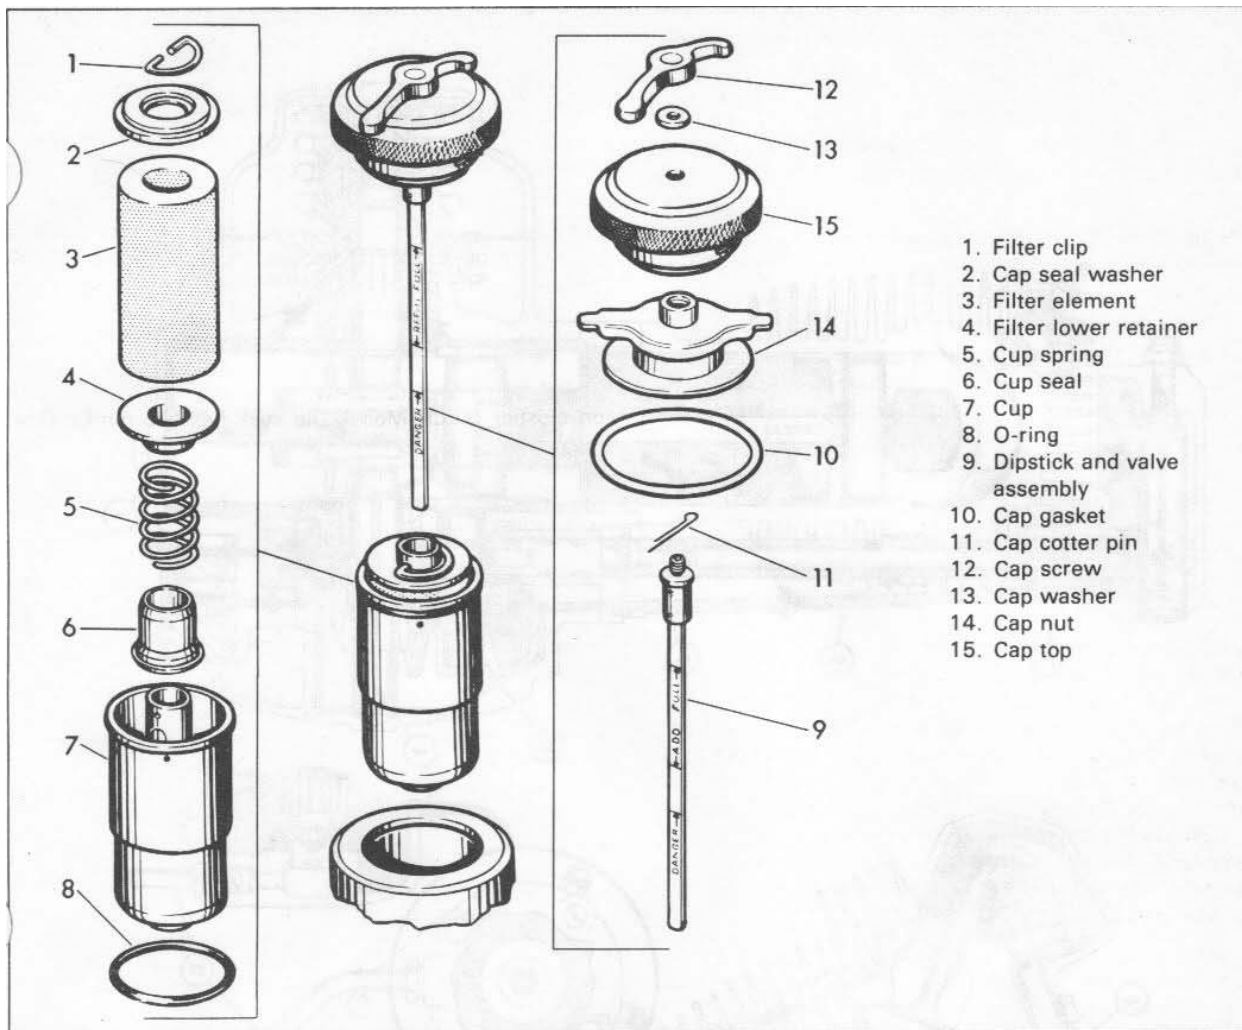

Figure 3-1. Oil Tank Filter - Exploded View
SERVICING OIL FILTER (Figure 3-1)
Thoroughly wash filter element (3) in clean solvent at least every 2000 miles or whenever engine oil is changed. Renew filter element every 5000 miles. To disassemble filter, follow order of disassembly under Figure 3-1. Assembly is essentially the reverse order of disassembly. Be sure O-ring (8) is positioned in filter cup (7) flange.
SERVICING OIL TANK CAP AND OPENING (Figure 3-1)
Clean and inspect all parts replacing any that are worn or damaged. Pay particular attention to the oil tank cap gasket (10) and the cap washer (13). To disassemble tank cap follow order of disassembly under Figure 3-1. Assembly is the reverse order of disassembly.